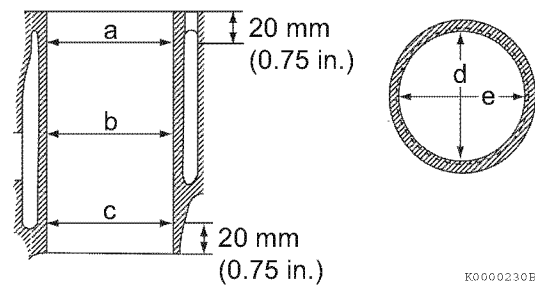

Figure 6-65
- Take measurements at three places (**Figure 6-65**) (**a, b, and c**), and in two directions (**d and e**) in each cylinder. Collect and record the measurements. *See Cylinder Block on page 6-12 for specifications.*